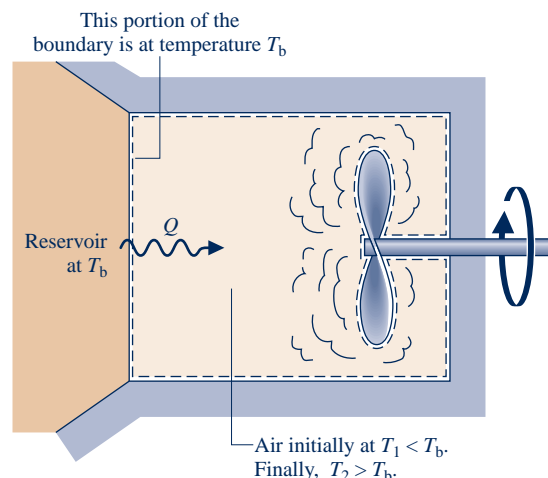

Fig. P6.71
6.71 Figure P6.71 shows a system consisting of air in a rigid container fitted with a paddle wheel and in contact with a thermal energy reservoir. By heating and/or stirring, the air can achieve a specified increase in temperature from T_1 to T_2 in alternative ways. Discuss how the temperature increase of the air might be achieved with (a) minimum entropy production, and (b) maximum entropy production. Assume that the temperature on the boundary where heat transfer to the air occurs, T_b , is the same as the reservoir temperature. Let $T_1 < T_b < T_2$. The ideal gas model applies to the air.